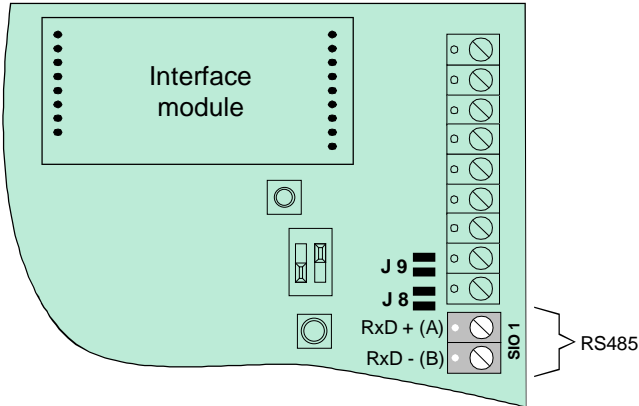

Fig. 9: Terminal SIO 1
- For activation of the symmetry resistors, close **both** solder bridges J8 + J9 (see Fig.9).